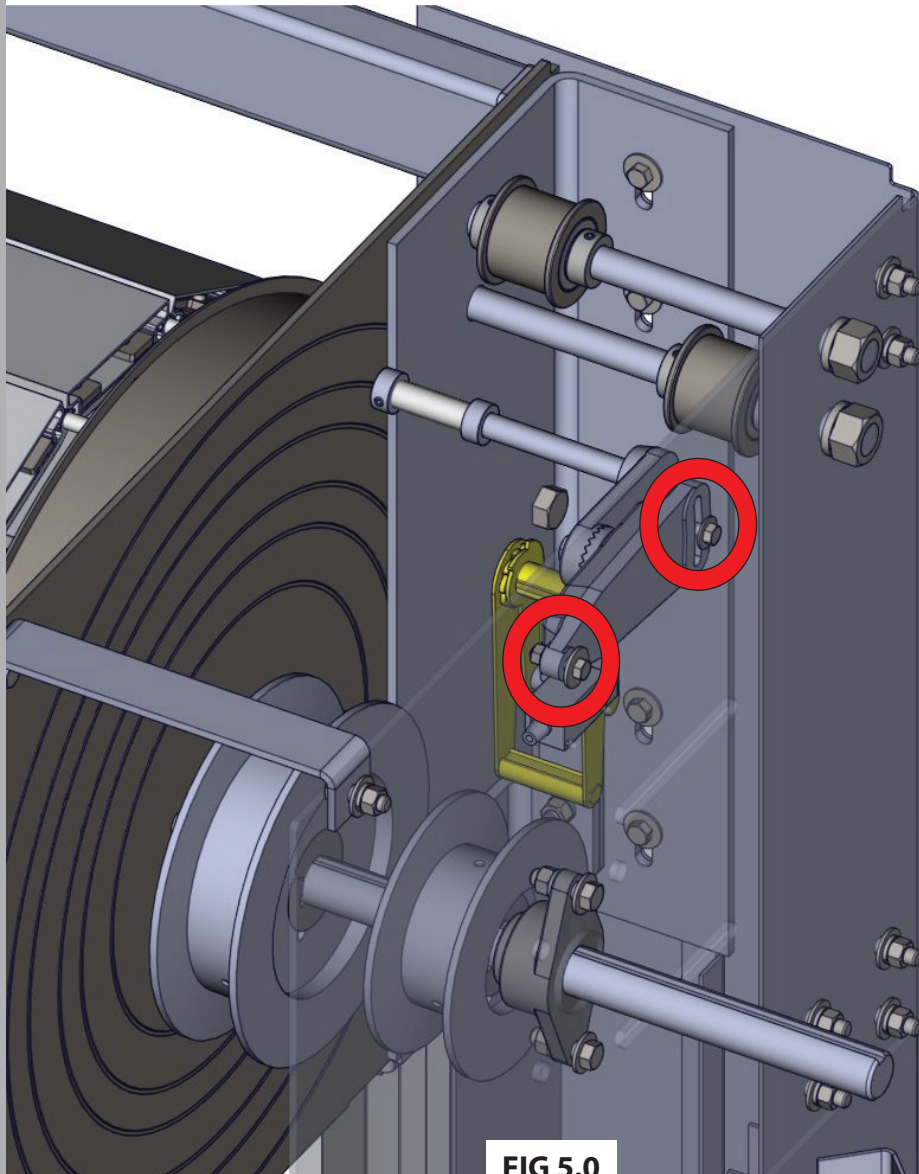

FIG 5.0
5. Remove the tension arm bolts. Remove tension arm assembly and discard. Install new tension arm assembly and bolts, as shown in **FIG 5.0**.